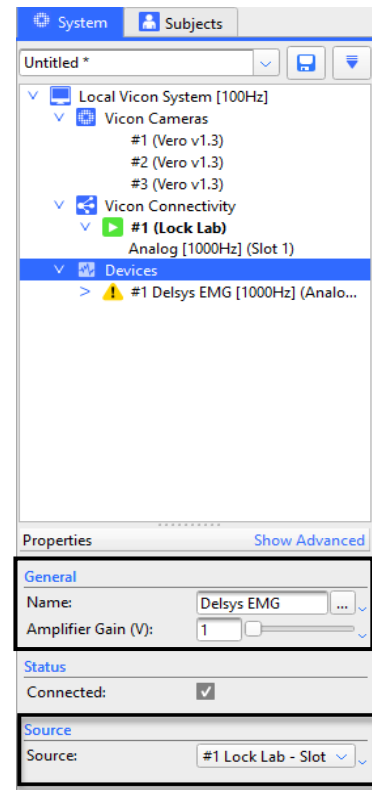

Figure 18: Adding in the Lock+/Lab Source in Vicon Nexus.
6. Select Analog EMG and determine an appropriate name for your system within the Properties. Then navigate to *Source* within the *Devices* tab to find and select the correct Lock+/Lab slot (Figure 18).